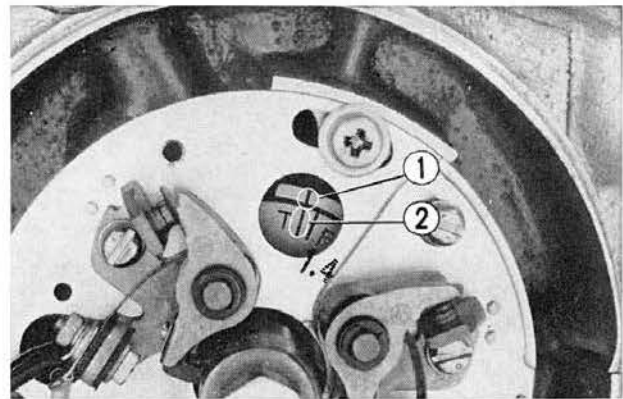

Fig. 3-39 ① Index mark
- a. Position the No. 1 and No. 4 cylinders to the top-dead-center by turning the crankshaft and aligning the No. 1 and No. 4 "T" marks on the spark advancer to the index mark (Fig. 3-39). During this operation, check the movement of the cam chain to make sure that it is properly fitted on the timing sprocket.